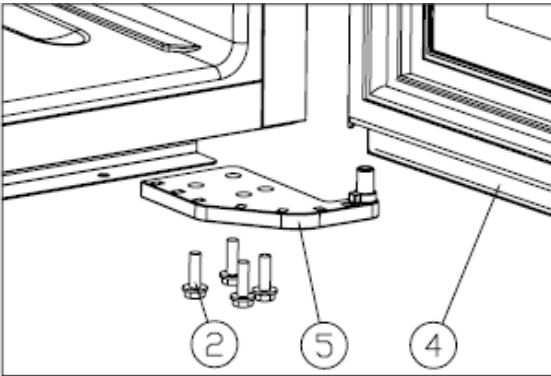

Figure 2
- ✧ Unscrew the M5\*16screws②, dismantle the right lower hinge⑤. [Figure 2]